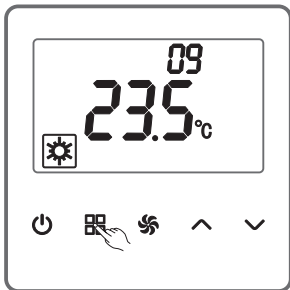

Figure 15
As shown in the Figure 15, on the parameter setting page, press  (MODE) to switch the option number to 09.  (UP) or  (DOWN) is provided to allow a rise or drop on the temperature. If the temperature unit is Celsius, the adjustment range of